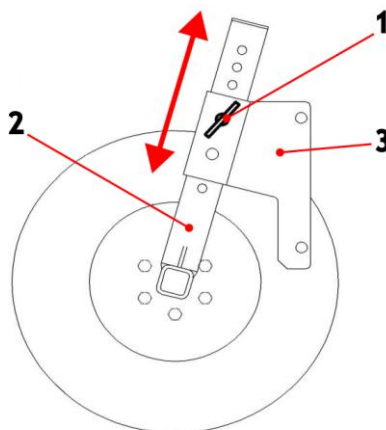

Figure 9 Adjustment of the support wheel (1 - working depth safety pin, 2 - support wheel height adjustment beam, 3 - support wheel beam adjustment handle)
- Determine the working depth of the tines by adjusting the position of the support wheels in the adjustment brackets (Figure 9),
- The correct working depth of the subsoiler is established by adjusting the pins in the holes of the support wheel adjustment brackets (Figure 9 item 1).